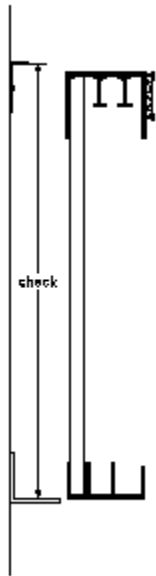

Fig 1
Step 6: Install top mount L-clips. Attach an L-clip at each stud, by installing one of the large supplied screws centered in the L-clip slot, to allow adjustment up and down. The screws should be centered on the line drawn in Step 5 above and the center line of each stud. Verify the dimension between the 2" angle and the L-clip to ensure the unit will fit, see Figure 1.